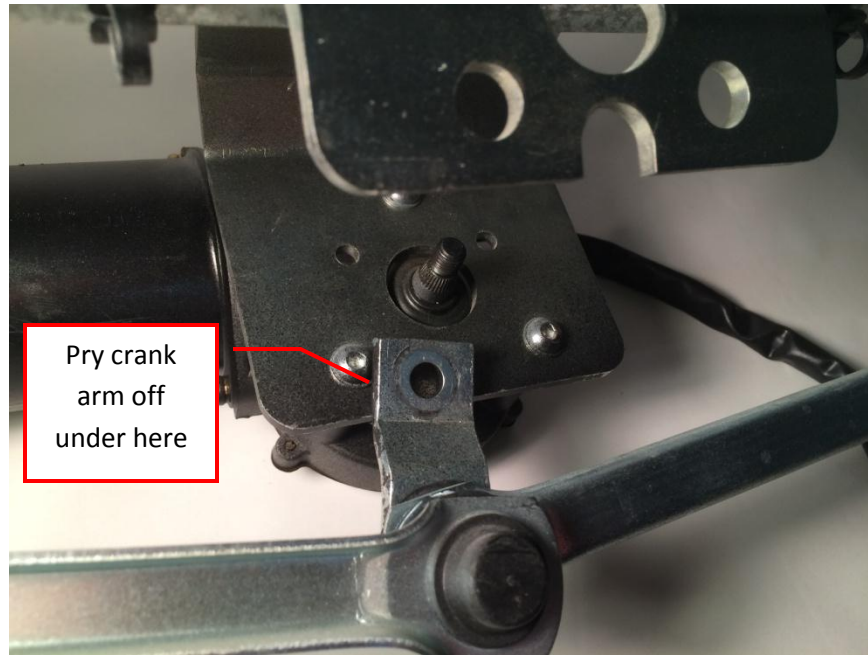

Fig. 2 Crank arm removed from motor shaft
- d. Pry the motor crank arm off of the motor shaft (see fig. 2)